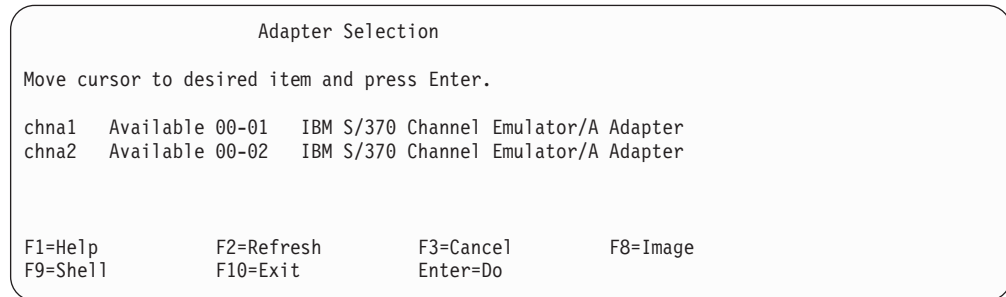

Figure 21. SMIT Adapter Selection Panel
- Select Load Driver onto S/370 Channel Emulator/A Adapter. The Adapter Selection panel (Figure 21) displays.